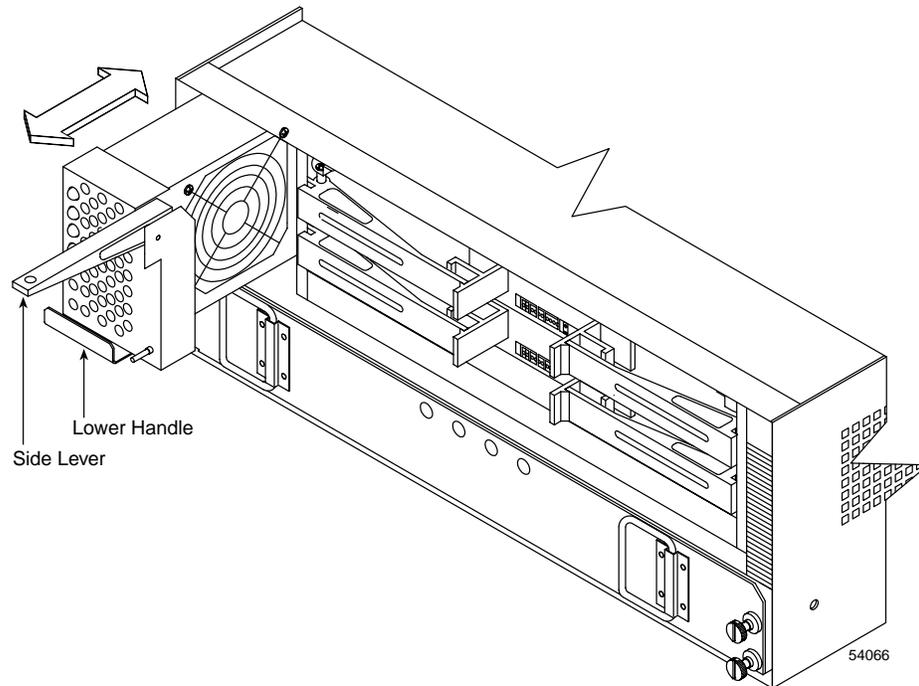

Figure 4-6 Removing and Installing a Controller Fan Canister
3. Remove the failed controller fan (Figure 4-6).
4. Install the new controller fan canister (Figure 4-6).